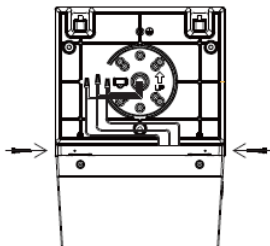

Fig. 2.6
7. Attach the front cover of the luminaire back to the mounting plate and tighten both screws on the side of the luminaire (Fig. 2.6).